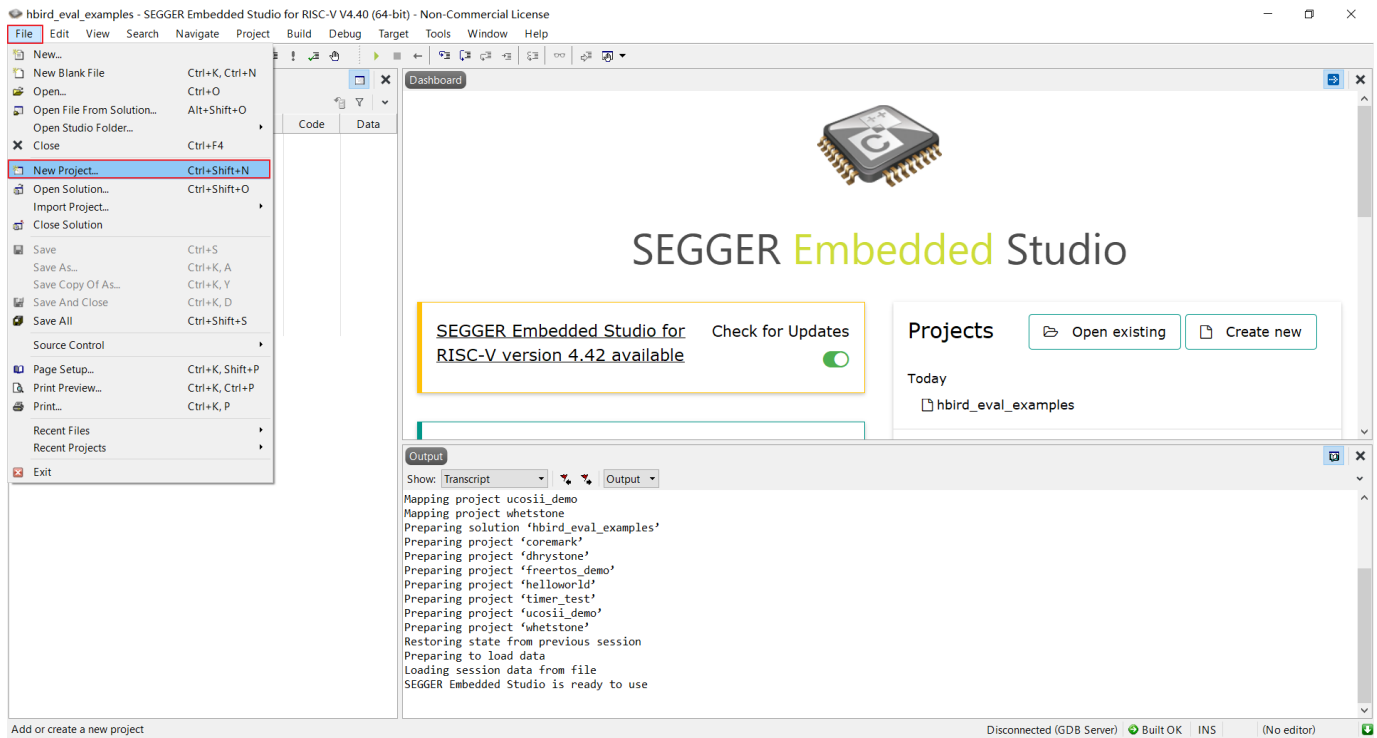

Figure 2-6 Create New Project
- Select "File --> New Project" in the menu bar, as shown in Figure 2-6.